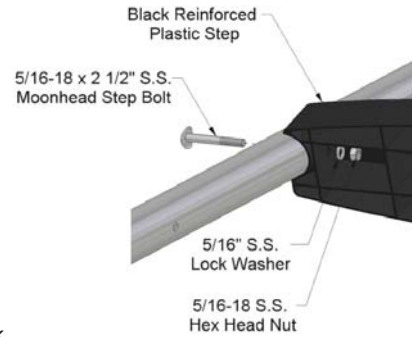

Fig. 6
Step 1) Connect a front support rail to one end of the black plastic step using a Moonhead step bolt, 5/16" lock washer, and 5/16" hex head nut. Repeat this procedure on the other end of the step, securing it to the other front support rail. Loose assemble. **See Figure 6.**